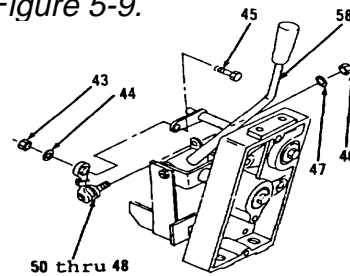
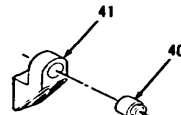

Figure 5-8.
Figure 5-7.
13. Install items 50 thru 48 as an assembly, washer (47) and nut (46) on lever (58, Figure 5-8).
14. Install bolt (45), washer (44) and nut (43).
15. Install bearing (40) in bracket (41, Figure 5-7).